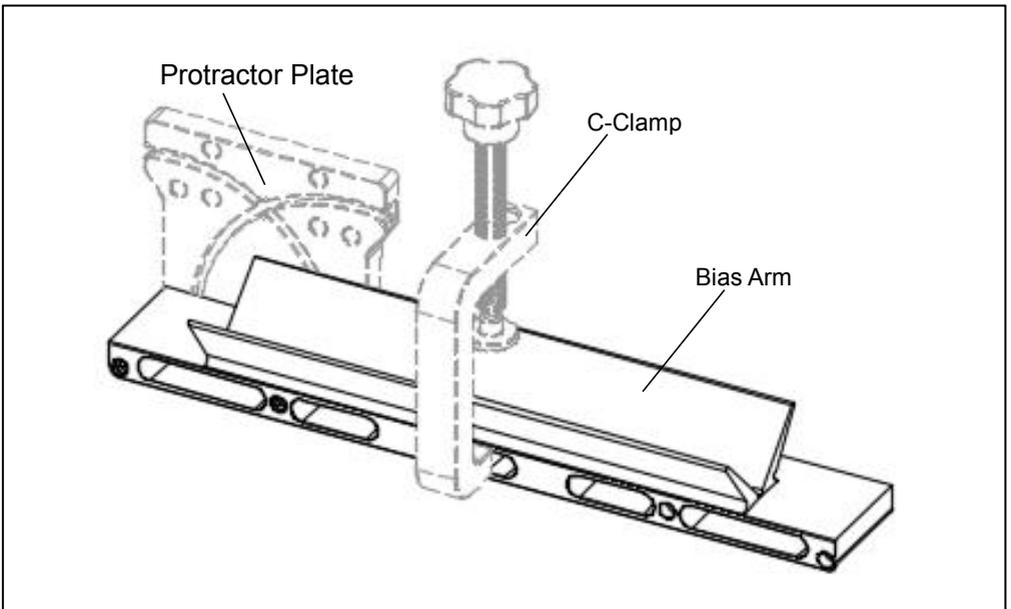

Fig. 14
- As shown in Fig. 14, the installation of the Bias Arm is exactly the same as that of the Tenon Miter Jig, and the Protractor Plate and the C-Clamp are universal.